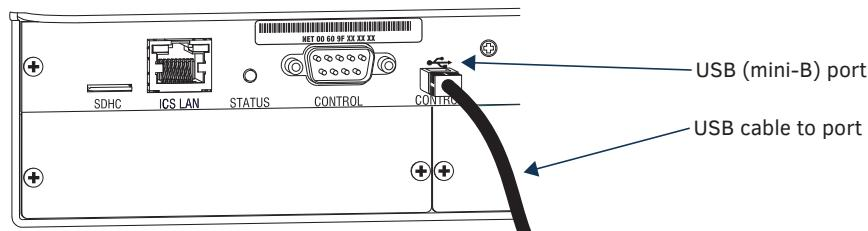

FIG. 143 USB cable connected to USB port on Enova DGX 3200 and to PC
3. Connect the enclosure to a PC running Windows with USB cable (FIG. 143).